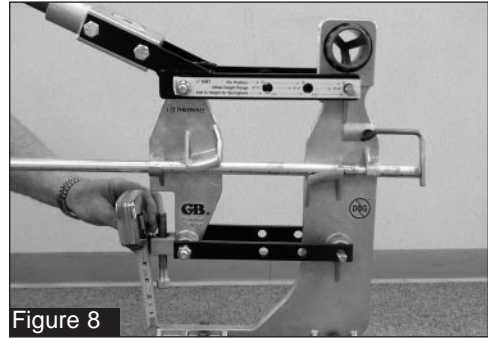

Figure 8
6. Set the bend stop screw adjustment by turning the screw until the distance between the bottom of hex head and the bottom of the frame is the offset height plus the fractional number on the decal. See Figure 8.